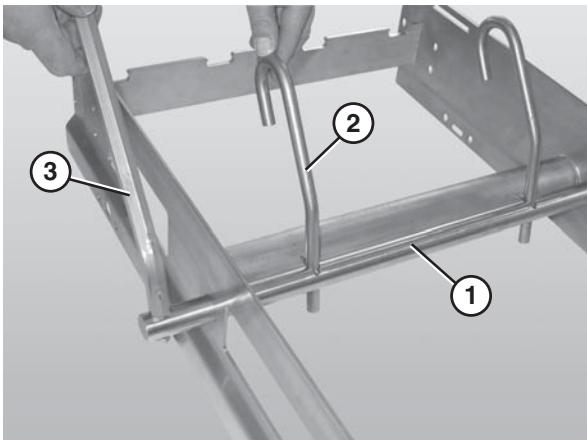

Figure 27
1. Slide the belt lift pivot bar (Figure 27, item 1) through the designated holes in the frame.
2. Attach the lifter bars (Figure 27, item 2) to the belt lift pivot bar (Figure 27, item 1). Make sure the hooked ends of the lifter bars are facing down when resting against the frame.
3. Attach the lifter handle (Figure 27, item 3) to the belt lift pivot rod.